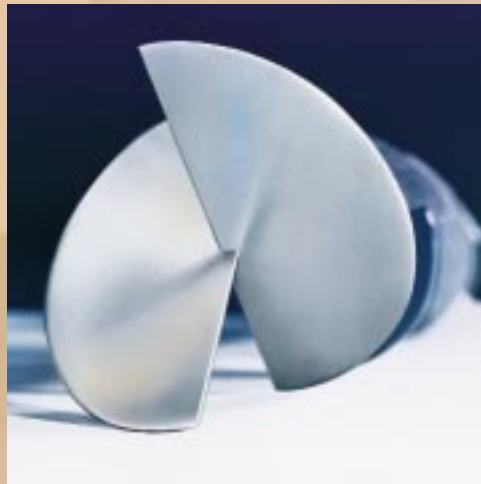

Fig. 1 LPD Element
Mixing Principle – The LPD Mixer consists of a series of semielliptical plates which are discriminately positioned in a tubular housing. A single element consists of two plates perpendicular to each other (Fig. 1). The mixing operation is based on splitting and then diverting input streams. In laminar flow, the number of layers (L) formed by (E) elements with an initial input of (N) components is given by $L = N(2)^E$.